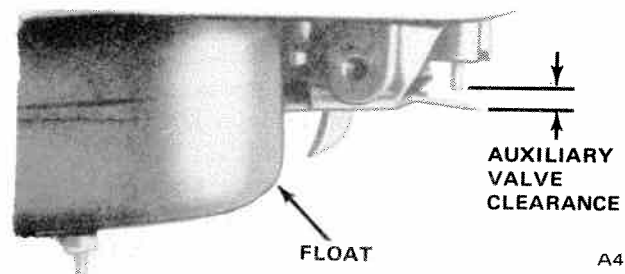

Fig. 4-71 Auxiliary Inlet Valve Adjustment
(2) While holding float in this position, measure clearance between float level auxiliary tab and auxiliary inlet valve plunger. Bend tab as required (fig. 4-71)
(3) Refer to Carburetor Service Specifications for correct setting.